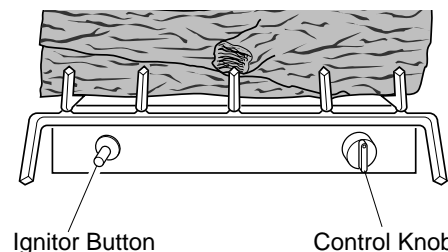

Figure 20 - Control Knob and Ignitor Button Location
4. Wait five (5) minutes to clear out any gas. Then smell for gas, including near the floor. If you smell gas, **STOP!** Follow "B" in the safety information. If you don't smell gas, go to the next step.
5. Turn control knob counterclockwise to the PILOT position. Press in control knob for five (5) seconds (see Figure 20).